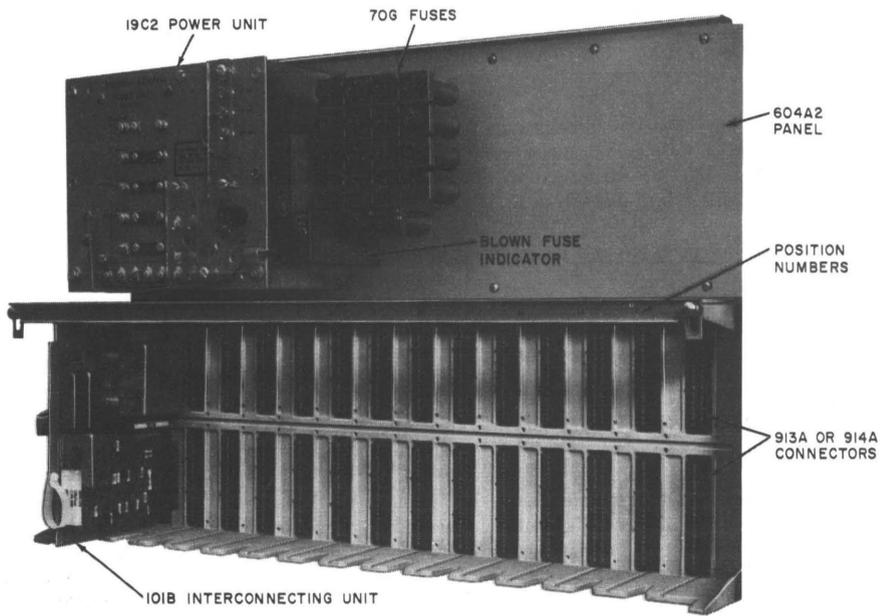

Fig. 6—101B IU Mounted in 604A2 (MD) Panel
1.05 The 604B panel (Fig. 3 and 5) is now rated MD but may be used when available; an installed 604B should be replaced with a 604C (Fig. 3 and 4) only when defective. These conditions also apply to the MD rated 604A-type panel (Fig. 6).
The sequence of installing 101-type IUs in the panels is important. Refer to the table in Fig. 3 for the correct sequence for the 604B or C panels and the table in Fig. 6 for the 604A panel. Note that the trunk number does not necessarily correspond to the position number in the panel. For example, the IU for trunk 3 must be installed in position 4. (The designation strip holders on the 604C panel and on some newer 604B panels show the trunk number associated with each position. The 604A and older 604Bs have only the position number.) In the 615A panel, install the IUs for trunks 1, 2, and 3 in J1, J2, and J3 respectively.